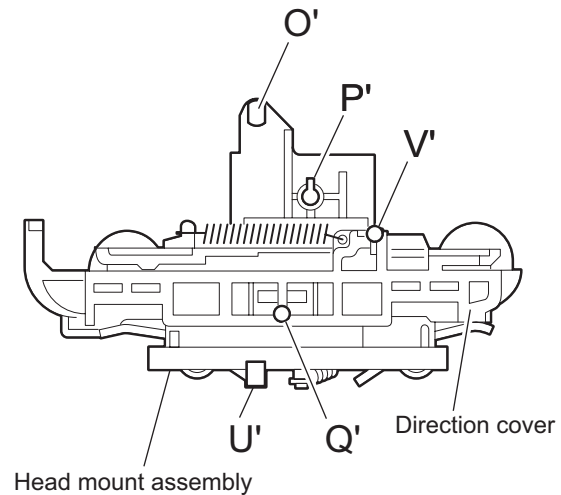

Fig.11
### 3.2.6 Reattaching the Play/ Record & Clear head (See Fig.11~13)
- (1) Reattaching the head mount assembly.
- b) Fit the bosses **O'**, **P'**, **Q'**, **U'** and **V'** on the head mount assembly to the holes **P** and **V**, the slots **O**, **U** and **Q** of the mechanism sub assembly (See Fig.11 to 13).